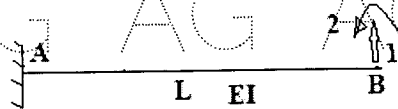

figure 1
- h) Develop flexibility matrix for the beam shown in Figure 1. [3]